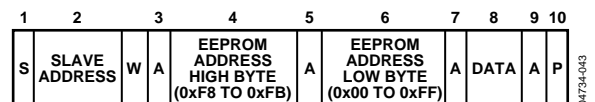

Figure 32. Single Byte Write to EEPROM
- To write a single byte of data to EEPROM. In this case, the command byte is the high byte of the EEPROM address from 0xF8 to 0xFB. The first data byte is the low byte of the EEPROM address, and the second data byte is the actual data, as shown in Figure 32.